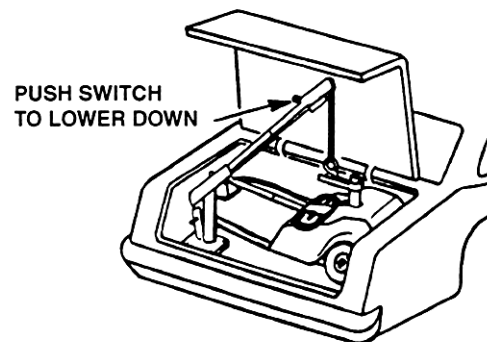

Figure 10
6) Press DOWN on the electrical switch and slowly lower your POV onto the floor of the trunk guiding it with your other hand (Figure 10).